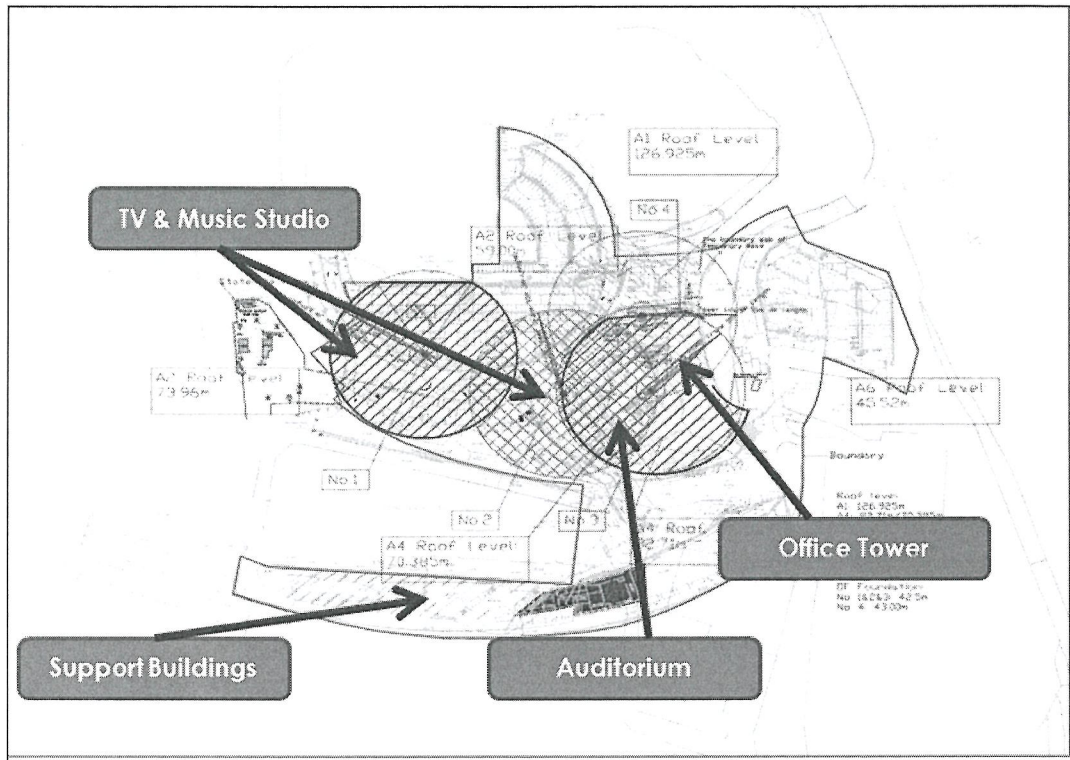

Figure 5 (C): Project A
- Q3** (a) Propose the differences between **THREE (3)** basic types of scrapers: crawler-drawn scraper, two-axle scraper and three-axle scraper. (9 marks)
- (c) Explain in detail **FOUR (4)** principle forces involved in compaction. (8 marks)
- (c) Referring to **Figure 5 (c)**, the auditorium is 2 storey high. Propose the suitable machineries to be deployed, given that the office tower and TV and Music studio are 10 storey high. Justify your answer. (12 marks)